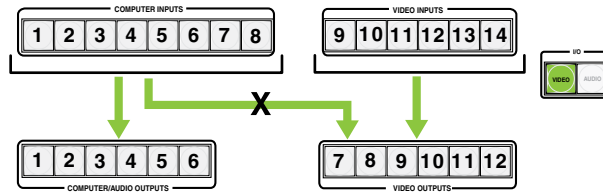

Figure 3-3 — Video ties
- Video ties cannot be made between the computer video group and the low resolution video group (figure 3-3).